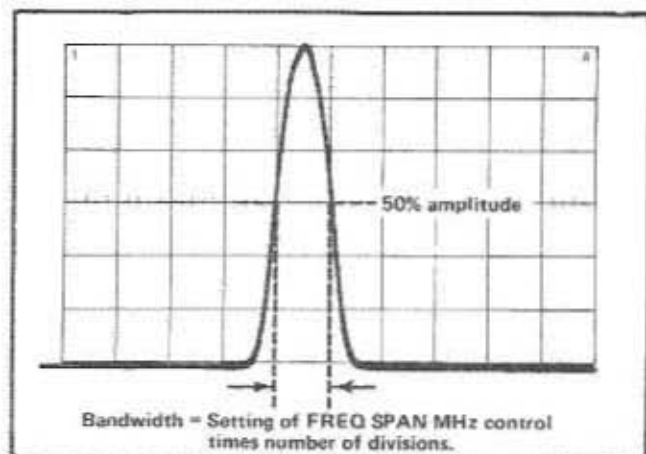

Fig. 6-9. Measuring resolution bandwidth.
4) Adjust the idler tank circuit with C171 (Fig. 6-9) for maximum response then readjust the oscillator frequency with C187 to return the oscillator to approximately the same frequency. The main objective in this procedure is optimum sensitivity, the oscillator can therefore be off frequency a few kHz (approximately 200) if the sensitivity is improved.
i. CHECK—The bandwidth (6 dB down point) of the response. Bandwidth should equal 100 kHz \pm 10%, see Fig. 6-9.